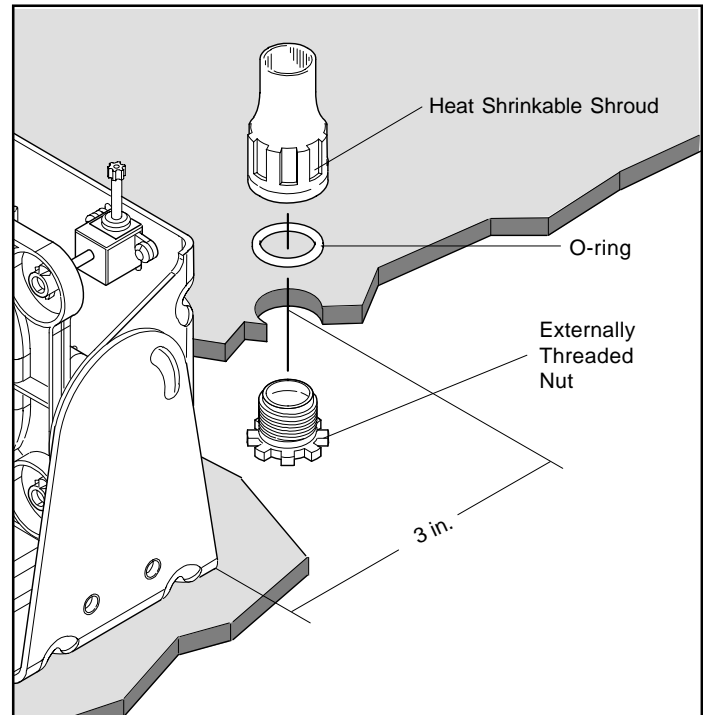

Figure 16 Heat Shrinkable Shroud Assembly (camera harness not shown)
1. Drill a 1 in. diameter hole through the roof of the truck cab using a step drill like the Unibit®. Drill the hole approximately 3 to 5 in. behind the installed mounting bracket. Refer to Figure 16.
NOTE: The threaded section of the nut should protrude past the vehicle surface. Refer to Figure 16.